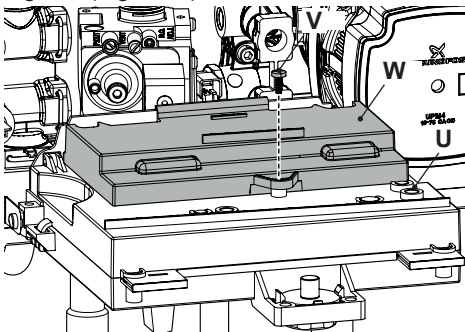

Fig. 6.16
- Unscrew the screw "T" (Fig. 6.15) and turn the control panel "U", as shown in Fig. 6.16.
- Unscrew the screw "V" and lift the cover "W" to release the cables from the cable gland (Fig. 6.16).